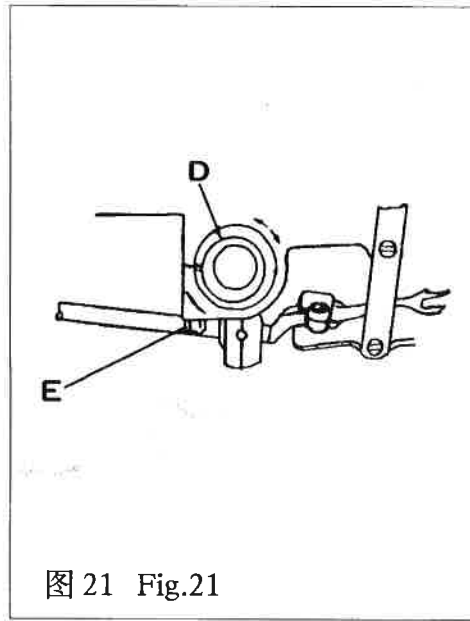

图 21 Fig.21
①旋松紧固螺栓“E”,左右移动偏心支承套“D”,达到上述要求时,旋紧紧固螺栓“E”(图 21)。
①Loosen set bolt "E", move the eccentric supporting sleeve "D" rightward and leftward, and tighten the set bolt "E" (Fig.21)
①旋松紧固螺栓“E”(图 21), 周向转动偏心支承套“D”, 使钩线叉在右端时达到上述要求。
①Loosen set screw "E" (Fig.21) and turn the eccentric supporting sleeve "D" so that when the thread hook is at the right end may comply with the above-said requirements.